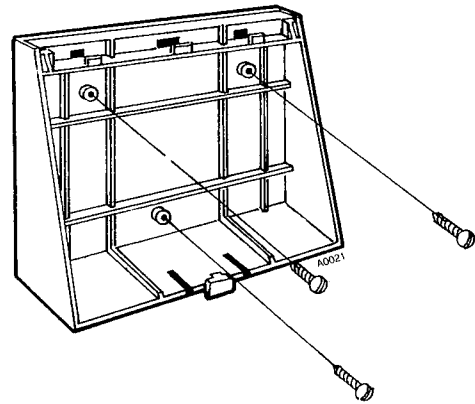

Figure 1 SECURING WALL MOUNTING BRACKET, EK-616
- *Secure wall mounting bracket on wall in desired location with three screws ( Figure 1 ).*